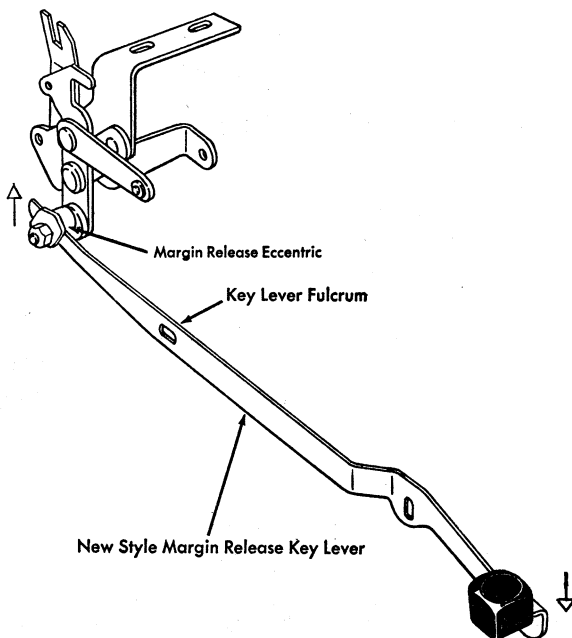

Figure 12. Margin Release
6. Remove the margin release lever pivot screw and remove the key lever through the front of the machine (Figure 12).
bottom of the margin rack by .010" to .015" (Figure 12 or 13).
4. THE IMPROVED MARGIN RELEASE mechanism, above serial 401,569 on Standard Models and 130,300 on Executive Models, (Figure 12) requires an adjustment only at the eccentric on the tab actuating lever, to obtain .010" to .015" clearance between the margin control lever and the margin rack.